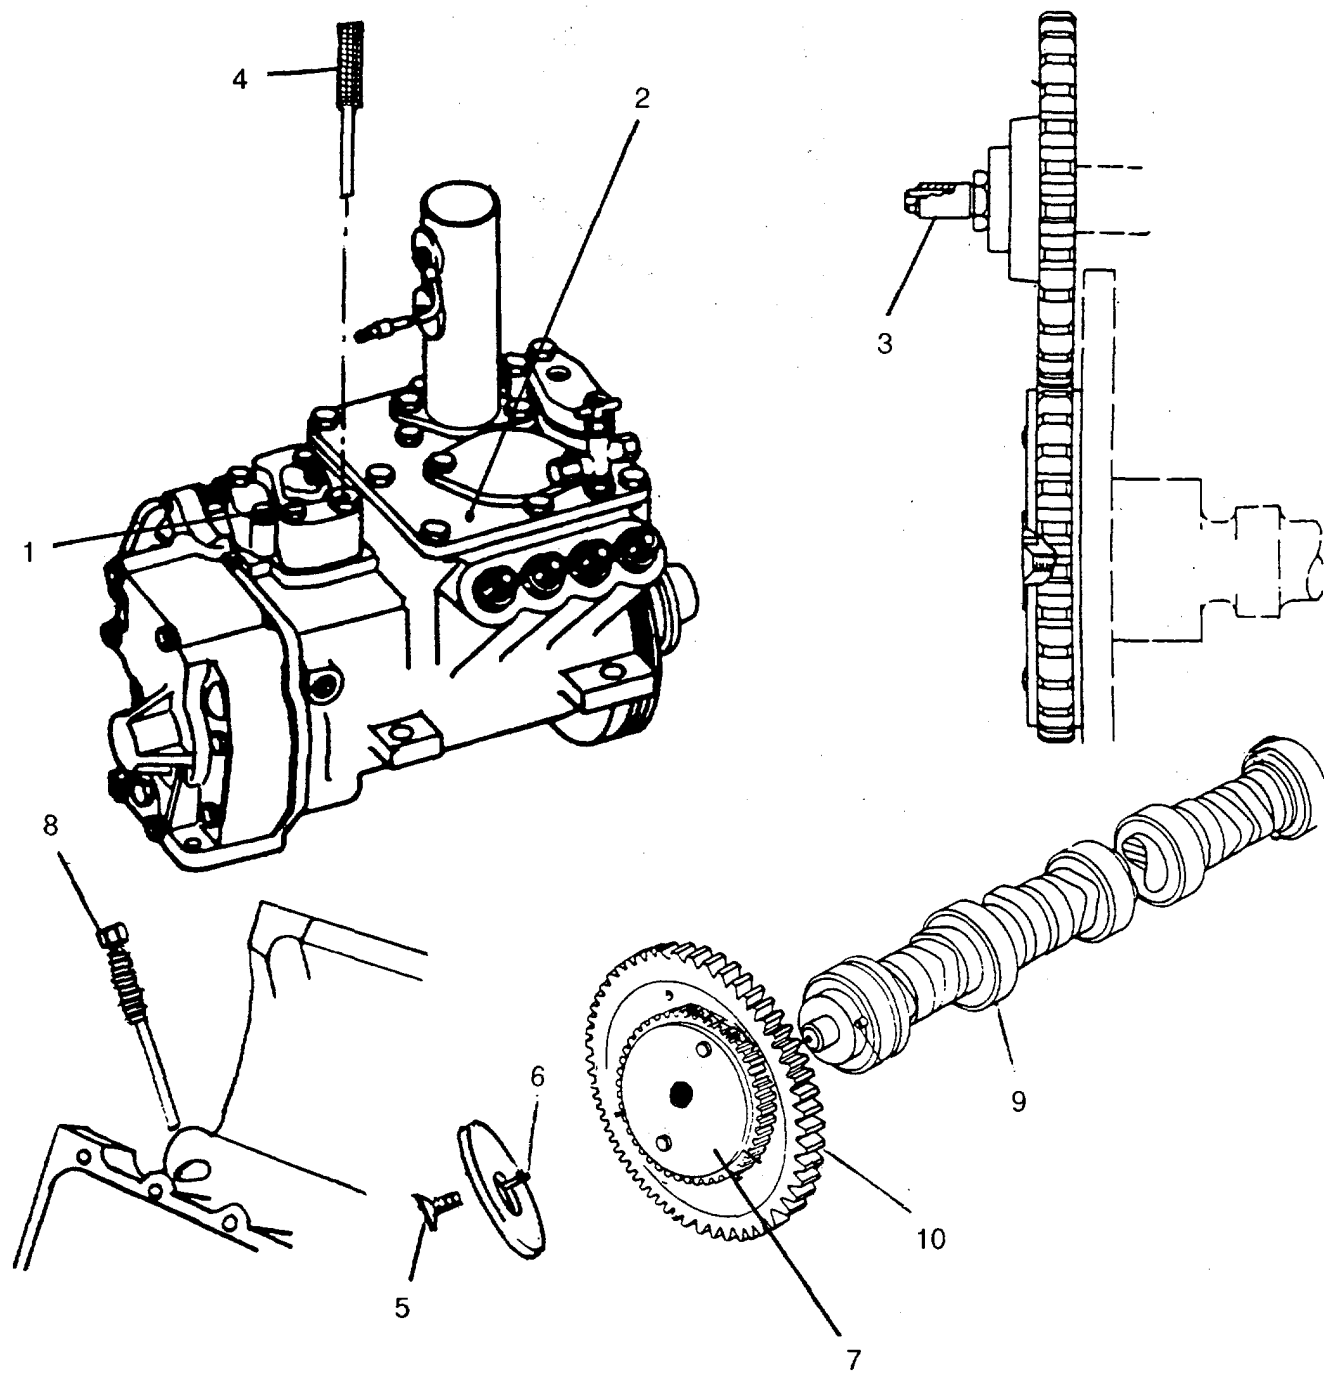

Figure 6-6. Camshaft and Gear Assembly.
9. Install thrust pin and tighten to 35 lb.-ft. (Fig. 6-6.)
10. Install tachometer drive adapter and tighten to 110 ft.-lb. (Fig. 6-6.)